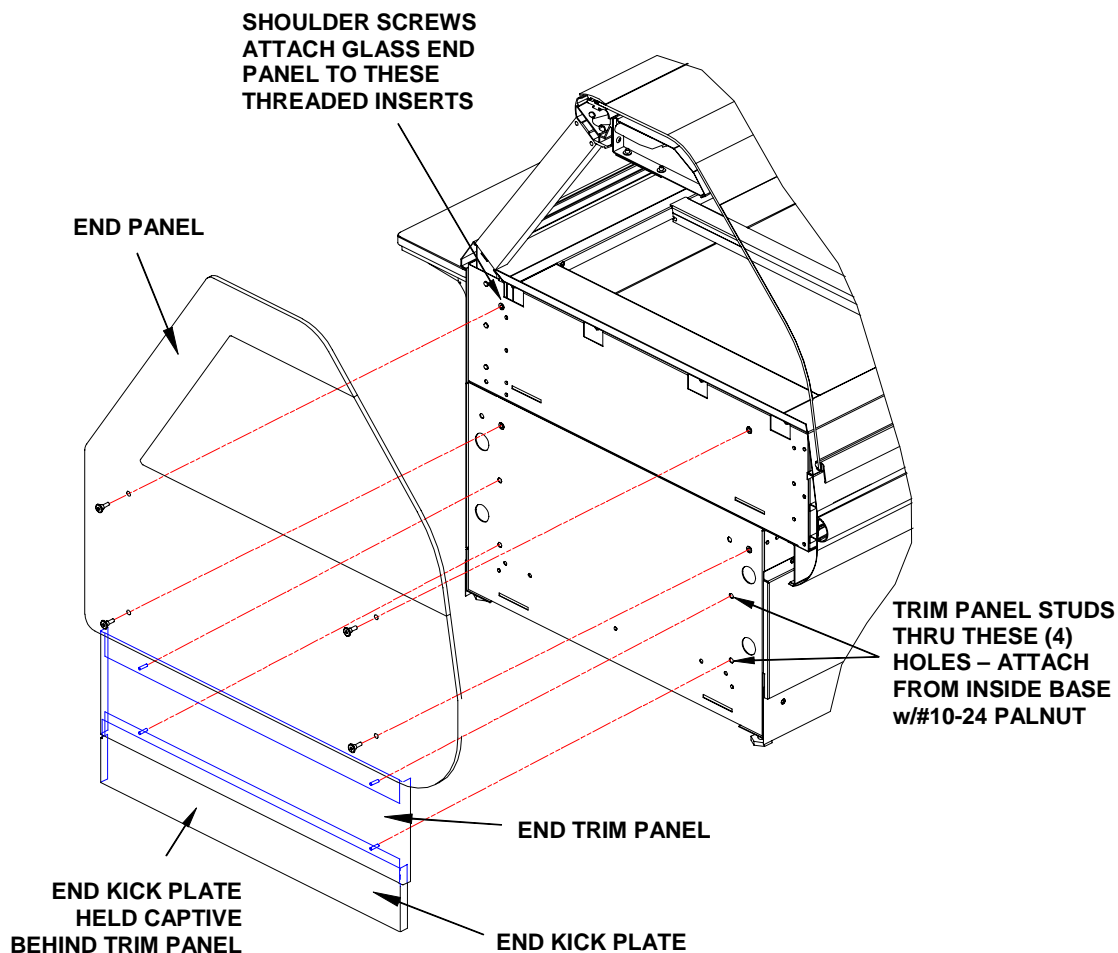

Figure 2. Floor Model - End Kick Plate & End Panel Mounting
NOTE: None of the end components shown in Figure 2 should be attached to adjoining case ends
6. Place the End Kick Plates in position (see Figure 2).
1. Now, attach the End Trim Panels to the base ends. The studs on the Trim Panels pass through the mounting holes in the base ends (see Figure 2). Both End Trim Panels are the same.
3. Attach the End Panels to the ends of the case(s) as shown in Figure 2 using the shoulder screws provided. For Glass End Panels only, slide the plastic bushings provided over the shoulder screws before inserting the screw into the glass panel. Be careful that the screws do not bind in the holes in the glass panel.